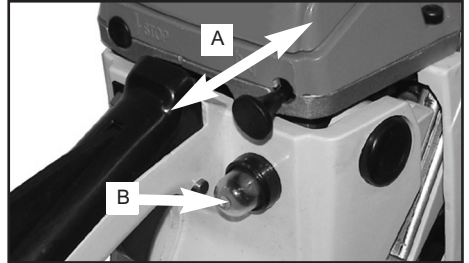

Fig. 10
2. Pull the choke lever fully out. (Fig.10-A)
3. Press the primer bulb 3 to 5 times. (Fig.10-B)
5. Place the saw on a firm and level surface. Hold the saw securely with your foot as illustrated in Fig.12. Pull the starter 3 to 5 times. Stop when the engine tries to fire. Push the choke knob back in (Fig.10-A) and then pull the starter again several times until the motor starts.